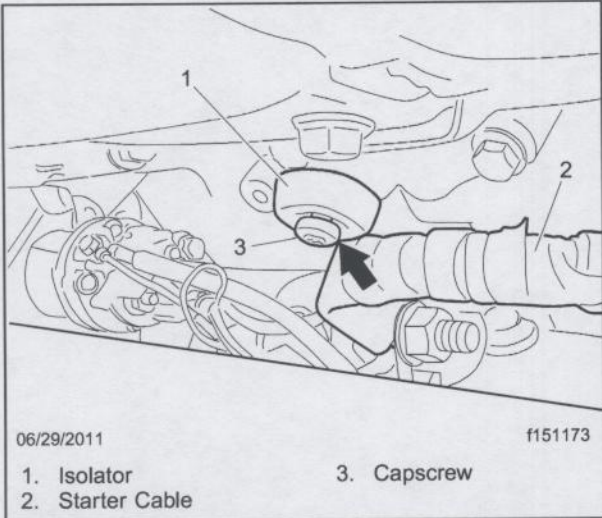

Fig. 1, Installation that Requires Replacement
4. Remove the capscrew, washer, and isolator from the side of the engine, then discard them. See **Fig. 1**.